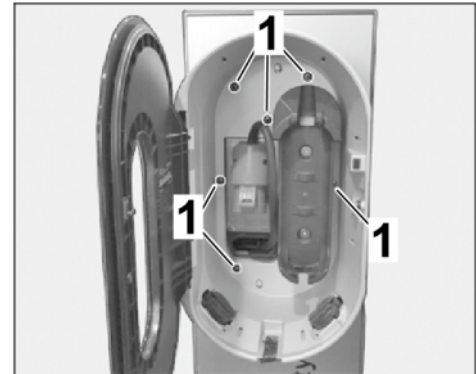

Figure 25
- 5.2.2 Screw in and tighten screws ⇒ *Figure 25 -1-*.